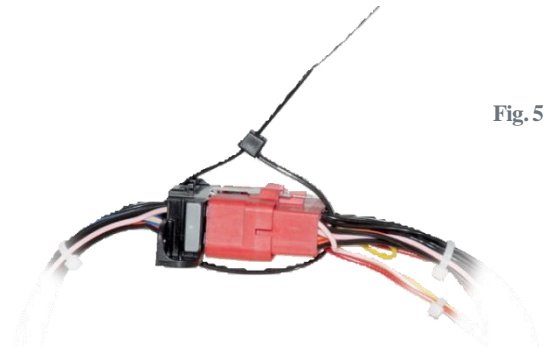

Fig. 5
6. Plug-in the female OBD connector supplied to the vehicle OBD connector and secure with a small cable tie (**Fig 5**).